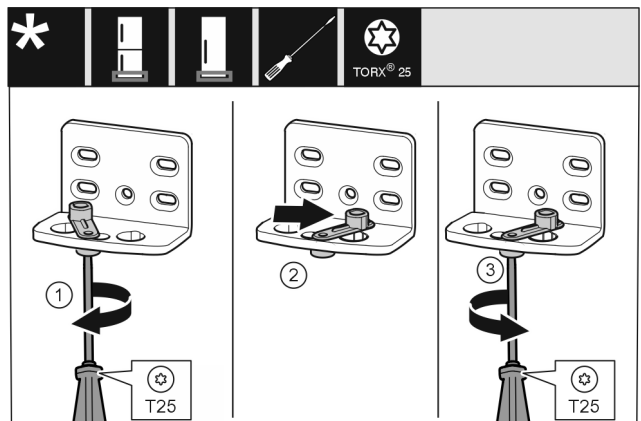

Fig. 9
- Loosen the screw using a T25 screwdriver. Fig. 9 (1)
- Lift the door closing aid and turn it 90° to the right in the hole. Fig. 9 (2)
- Tighten the screw using a T25 screwdriver. Fig. 9 (3)